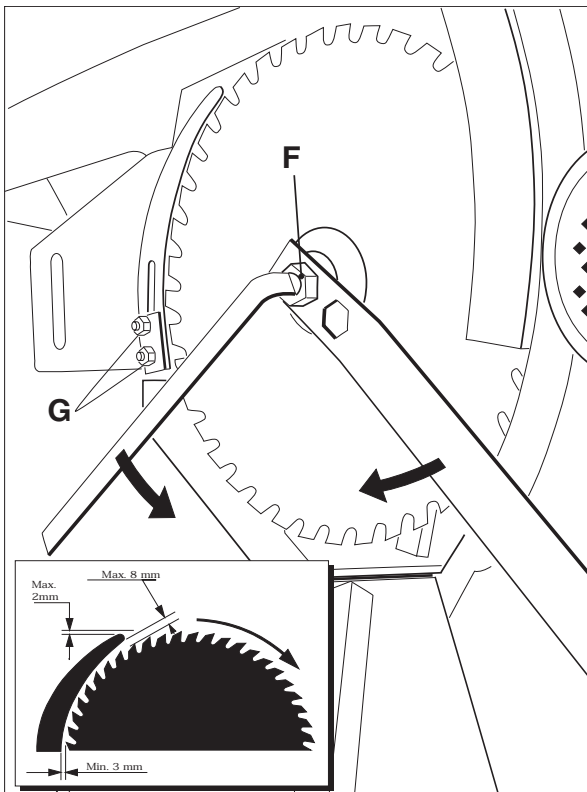

Fig. 14
- To remove saw blade, use tools supplied with saw. First open saw blade cover. Hang upper cover in chain under sawtable and loosen arbor nut **F**. The arbor has a left-hand thread, so screw nut clockwise. Be sure to close cover when finished. *See Fig. 14.*
- The riving knife must always be fitted when saw is being used. Adjust riving knife as illustrated in *Fig. 14*.